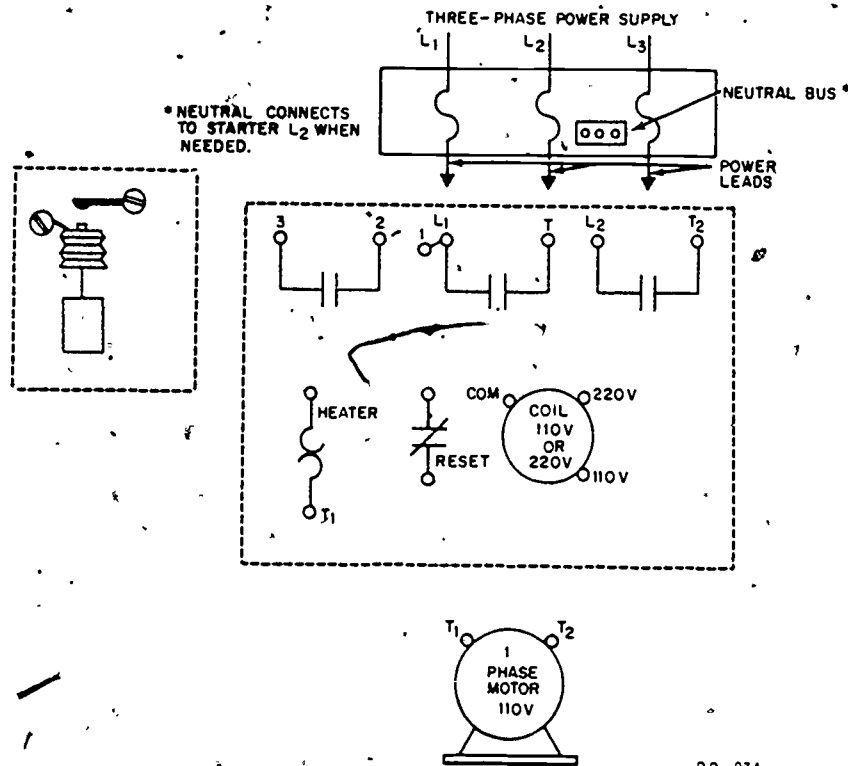

Figure 32. Connecting a Single-Phase Starter with a Thermostat
Step 1. Complete the following diagram in figure 32.
- Step 2. Using the diagram you have just completed in figure 32, connect a thermostat to control the magnetic starter now installed on your trainer.